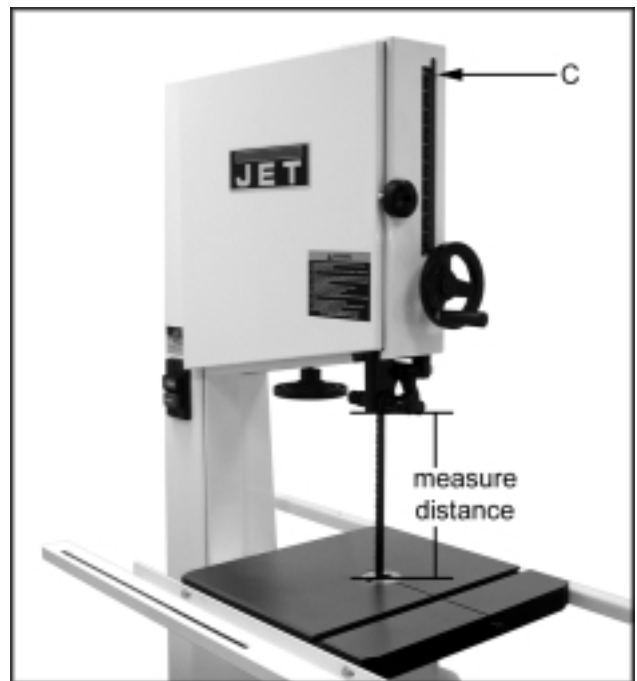

Fig. 14
3. Measure from the table top to the bottom of the blade guides, Figure 14.